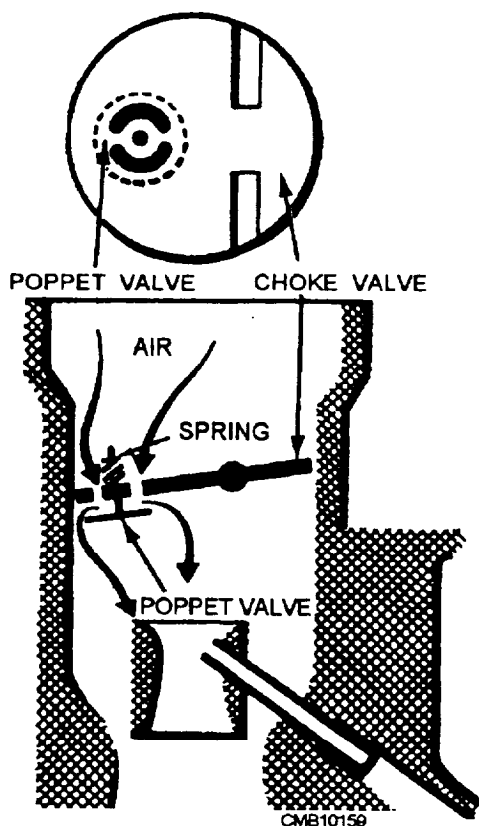

Figure 4-30.—Spring-loaded poppet valve in the choke valve.
- A spring-loaded poppet valve (fig. 4-30) that is automatically pulled open by the force of the engine intake strokes.